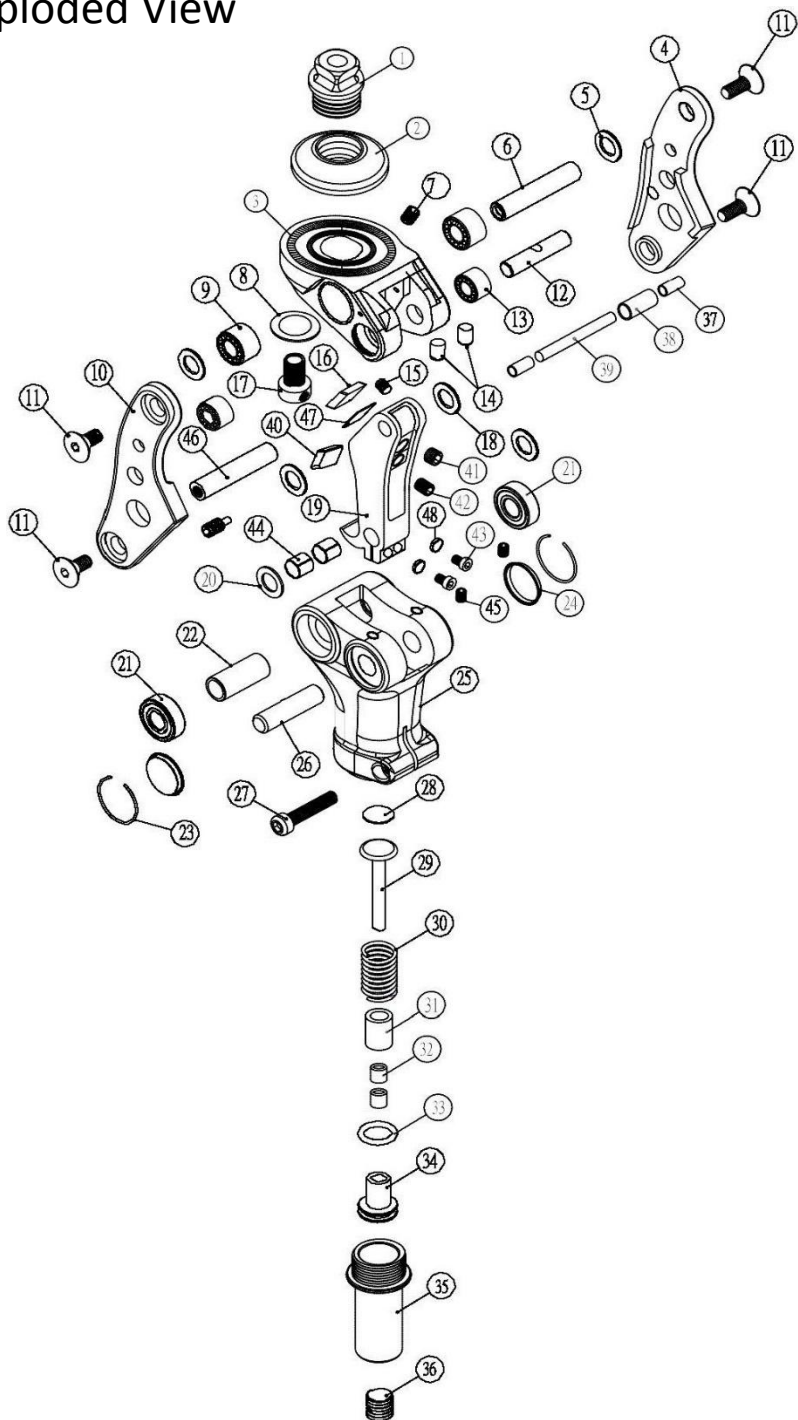

Fig. 2
Note: 4-bar knees inherently are very stable due to the geometry built into each design. This is commonly referred to as the Instant Knee Center (IKC). The IKC point when doing bench alignment, will fall behind the traditional TKA line that we will reference. (Fig. 2,3) Tg line in Fig. 3 is ideal placement, but in certain instances, it may be necessary to accommodate placement anteriorly (up to 3mm). The Tg line is referencing a moving A/P weight bearing line, so it could be slightly anterior or neutral.
a) With prosthesis assembled, taking into account hip flexion contractures, abduction, Line Of Progression, and toe out (Fig.2), the TKA plumb line should pass through the knee center (center of proximal/anterior pivot Fig.2a, 2b) and in front of the K point (IKC).